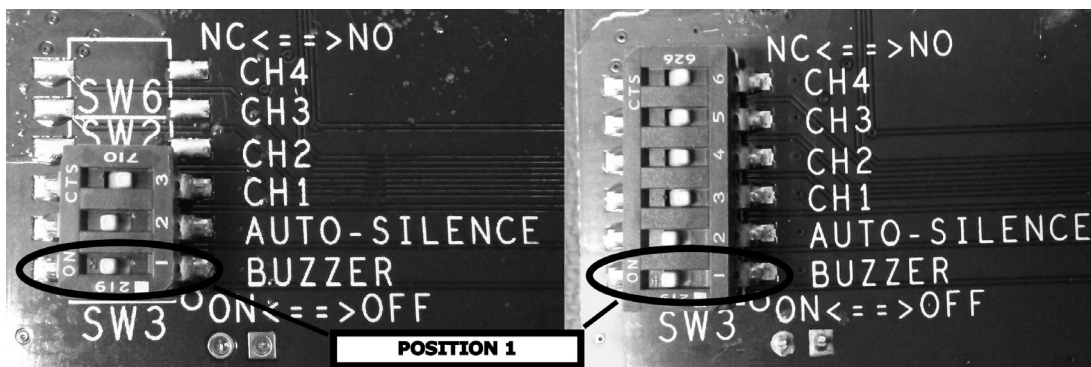

Figure 5 Configuration DIP Switch
- i. **Normally Open Contact Input Devices (default):** If the input device(s) to be connected to the 918 Series Alarm utilize normally open contacts, set DIP switch, position from Table 2 in the OFF position (see Figure 5).
- ii. **Normally Closed Contact Input Devices:** If the input device(s) to be connected to the 918 Series Alarm utilize normally closed contacts, set DIP switch, position from Table 2 in the ON position (see Figure 5).